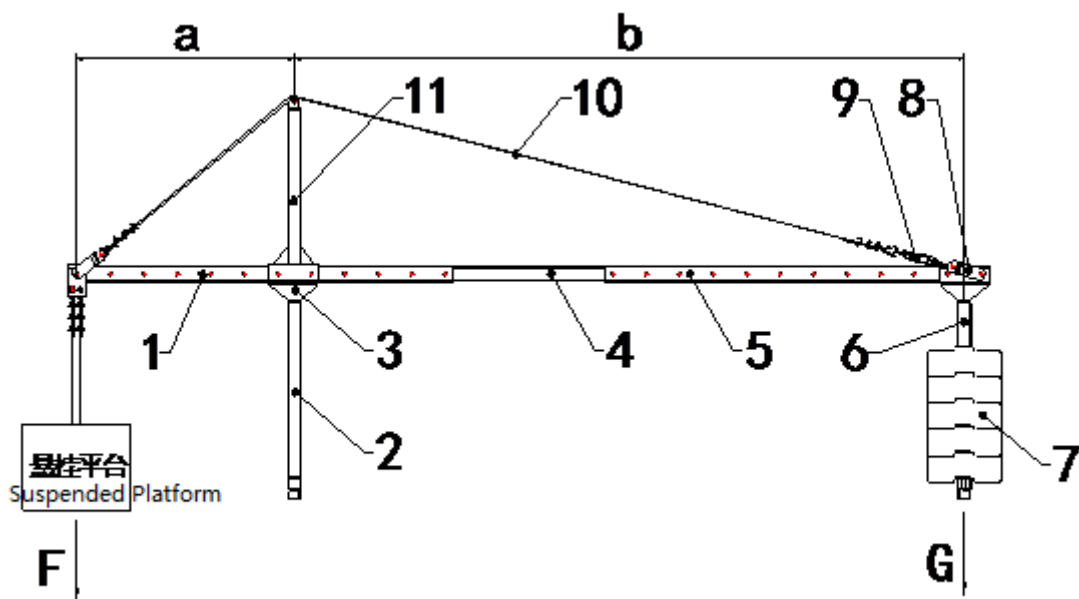

Figure 2 Suspension Mechanism
The suspension structure is a steel structure frame which is supported on the top of the work surface of the building, through the wire rope, to support the weight of the suspension platform and the weight of the rated load (see Figure2: the diagram of the suspension mechanism). Each Gondola uses two sets of suspension mechanisms. The force exerted on the support of a building or structure shall be in accordance with the structural requirements of the building.
The structure and assembly relationship are shown in Figure 2: suspension mechanism
3.2.3 Structure and installation method of assembled suspension platform (see Figure 2: suspension platform)
(see Figure2: assembled suspension platform)
4.3.2 the hoist mounting frame is mounted on both sides of the rail. During the installation, attention shall be paid to the size, length and installation position of the bolt. (refer to figure2). A large washer must be used to contact the steel tube. The caster is mounted at the lower end of the handrail at both ends of the platform and fixed with M12*100 bolts.